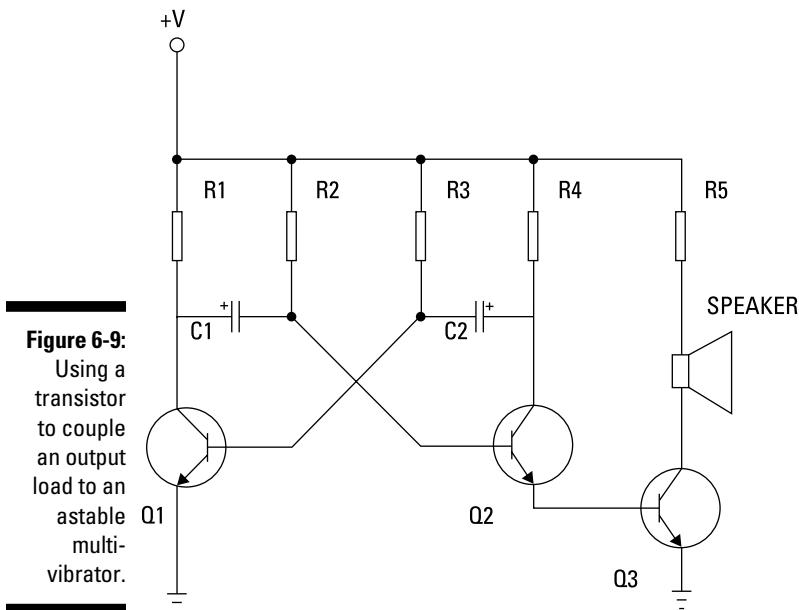

Figure 6-9:
- ✓ You can use a third transistor to couple the multivibrator with an output load, as shown in Figure 6-9. Just connect the emitter of one of the multivibrator transistors to the base of the third transistor and connect the load to the collector, as shown in the figure.